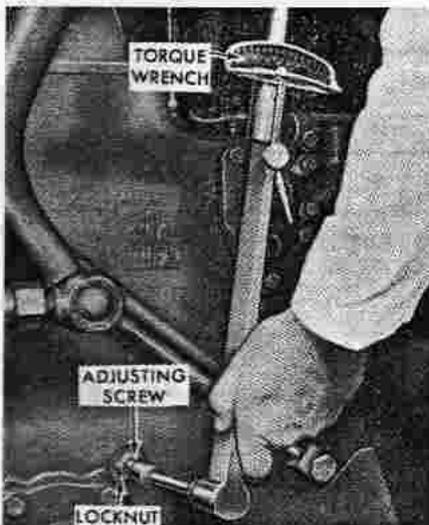

Fig. 233—Adjusting transmission bands with torque wrench. Refer to text for procedure.
**236. TRANSMISSION BAND ADJUSTMENT.** Before adjusting the transmission bands, operate transmission until fluid temperature is 80-120° F. Disengage the traction coupling as outlined in paragraph 232, refer to Figs. 233 and 234; then, proceed as follows: